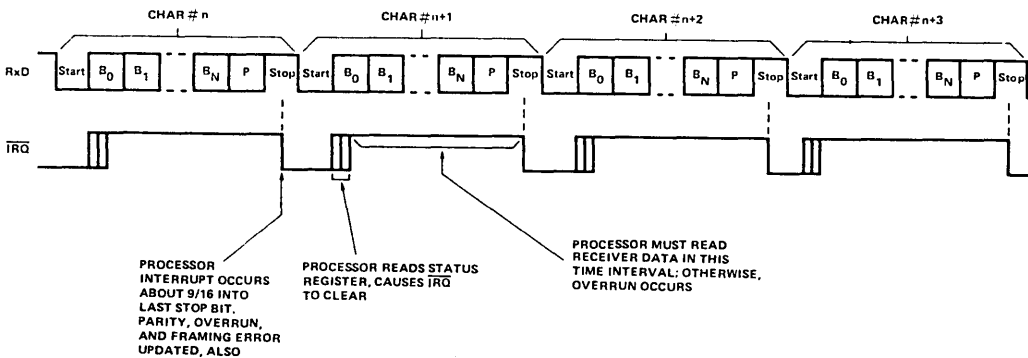

Figure 4-2. CONTINUOUS DATA RECEIVE
4.1.2 Continuous Data Receive (Figure 4-2)